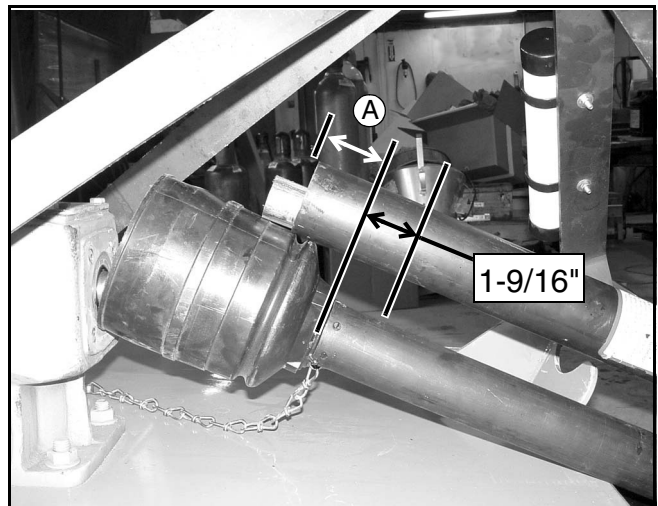

Figure 2. Determine Shield Length
4. Measure from end of the upper shield to the base of the bell on the lower shield (A). Add 1-9/16" to dimension (A). See Figure 2.